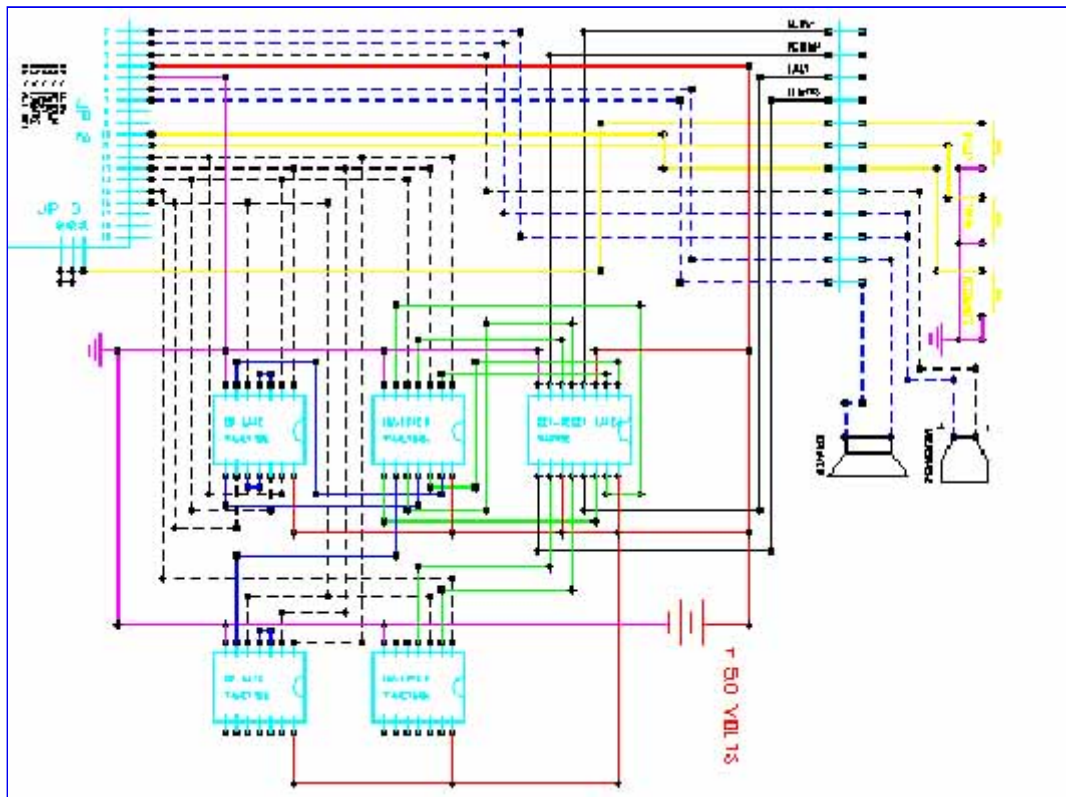
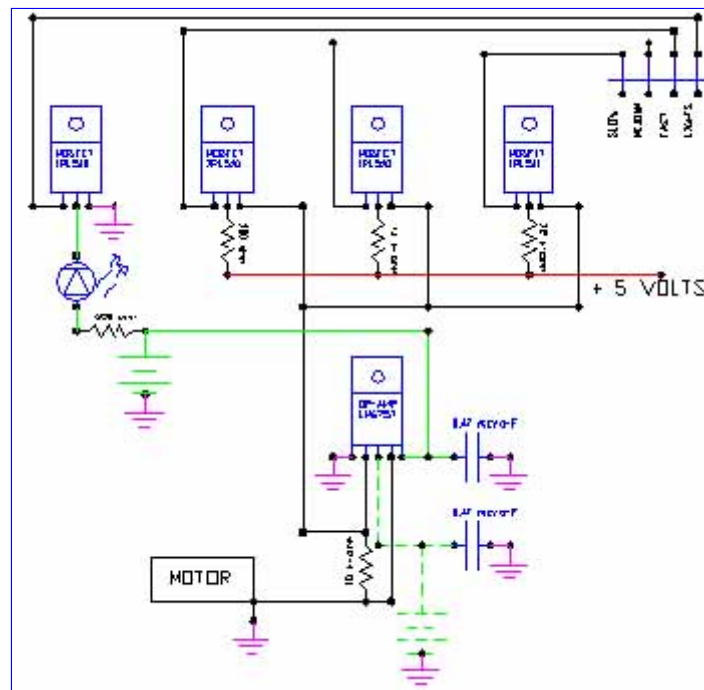

Figure 4. Latch, Inverter, and Or Gate (Click to view full diagram)
Figure 5. Light and Motor Speed Control Circuit (Click to view full diagram)
- The latch we are using has the outputs we desire, but the inputs are the invert of what we need. We will solve this by inverting all inputs into the latch as shown in Figure 4. Pin 1 of the inverter is the first input. Pin 2 is its inverted output. The last pin on the left side, pin 7, is ground. The top pin on the right, pin 14, is Vcc.
- Also shown in Figure 4 are the necessary logic gates. Since we want the circuit to turn off when off is spoken; logic OR gates are used to achieve this. When off is said, all functions are turned off. Similarly, the words slow, medium, and fast are going to be used to control a motor's speed. Since we only want one speed on at a time, when slow is said, medium and fast should turn off. The same goes for the other two combinations. The word lights is used to turn on a light and it is only turned off when the word off is spoken. Figure 5 shows the OR gate pin configuration. For the OR gate, pin 7 is ground and pin 14 is Vcc. Pin 1 or Pin
1. IRL510 MOSFETS are used to turn on and off our light and motor speed circuits. For the light circuit connect the output from the latch corresponding to lights to the gate of one MOSFET. To the drain will be a resistor in series with an LED. The source will go to ground. See Figure 5 for a diagram.